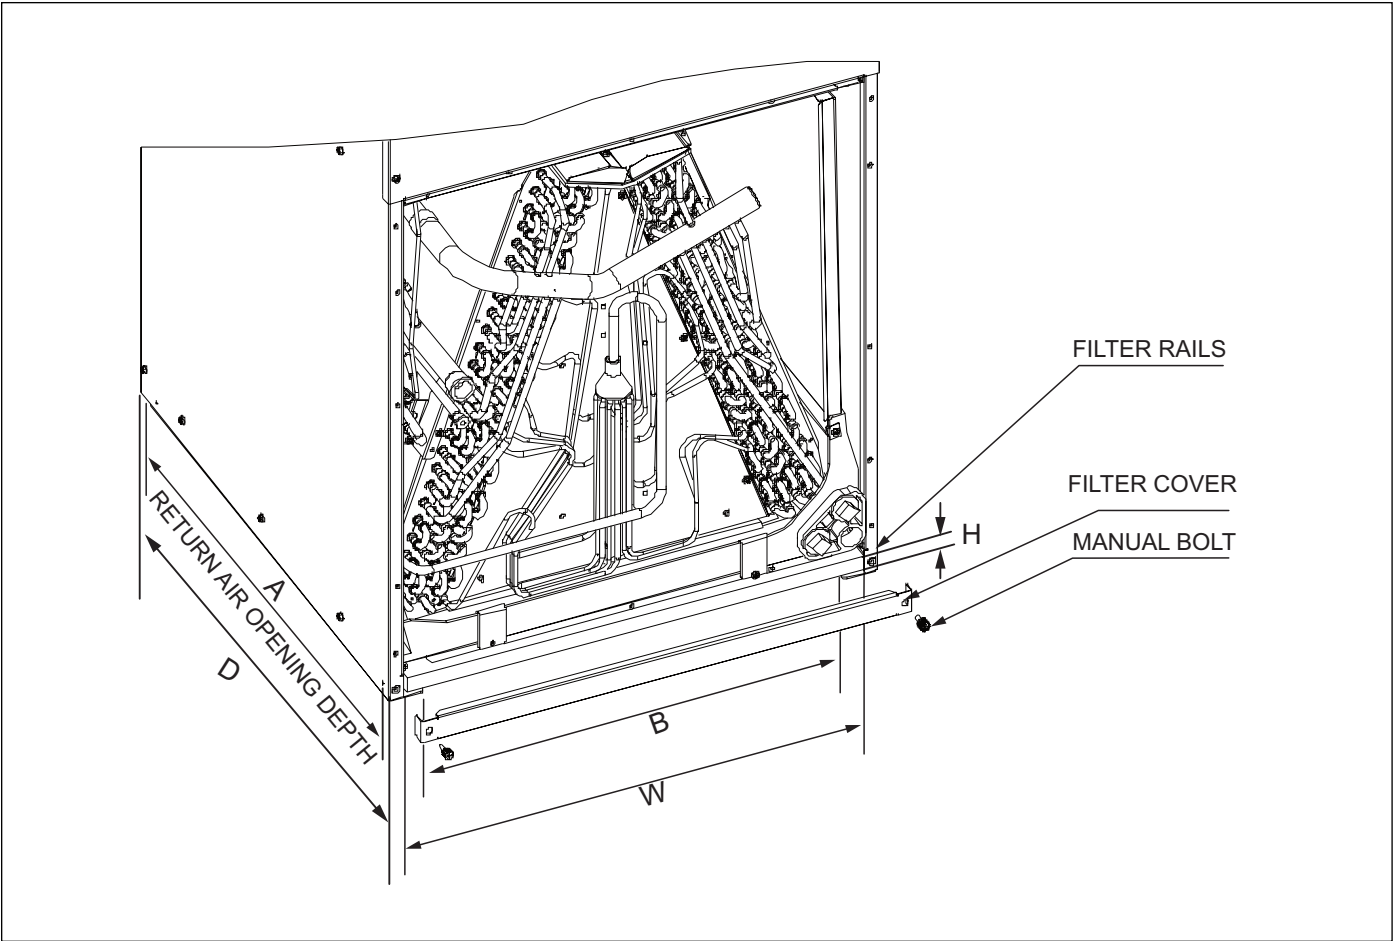

Figure 23 Filter installation
- Remove bolts manually, remove air filter cover, see Figure 23.